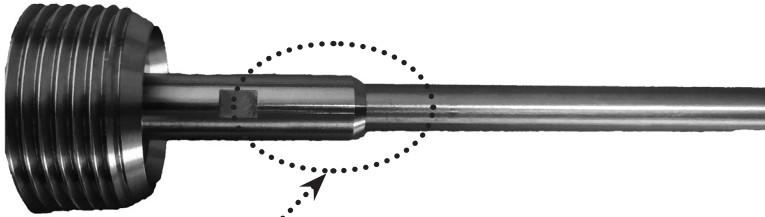

Fig. 29: The threaded connection of the electrode holder with the rod electrode
1. Heat the junction place (threaded connection) of the electrode and the electrode holder (see Fig. 29 and 30) using a heat gun at about 120-150 ° C (or 220-250 ° C for high temperature version).